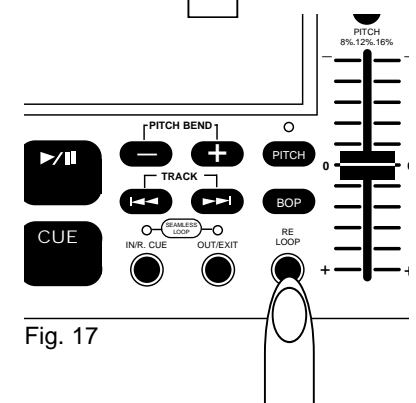

Fig. 17
- (1) To replay the loop, press the **RELOOP BUTTON (20)**. The **IN/R. CUE** and **OUT/EXIT LEDs** will again begin to flash indicating SEAMLESS LOOP mode has been activated (Fig. 17).
- If a SEAMLESS LOOP has not yet been created, follow instructions above (SEAMLESS LOOP PLAY) to create a SEAMLESS LOOP. If a SEAMLESS LOOP has already been created, press the **RELOOP BUTTON (20)** to reenter the SEAMLESS LOOP mode (Fig. 17).
- (1) Press the **OUT/EXIT BUTTON (18)** to return to normal play from the the